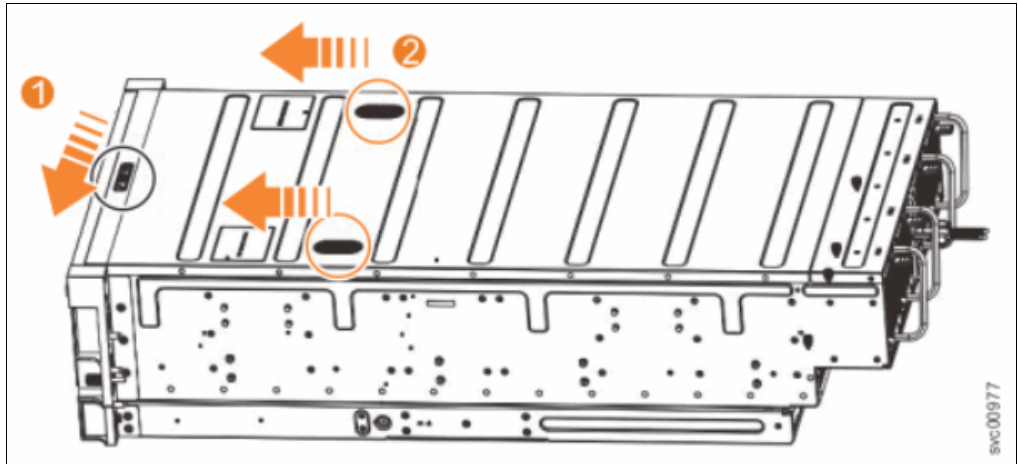

Figure 6-14 Releasing the expansion enclosure top cover
- a. Slide the release latch **1** on the top cover in the direction shown in Figure 6-14.
- b. Slide the cover toward the front of the expansion enclosure, as shown in Figure 6-14.